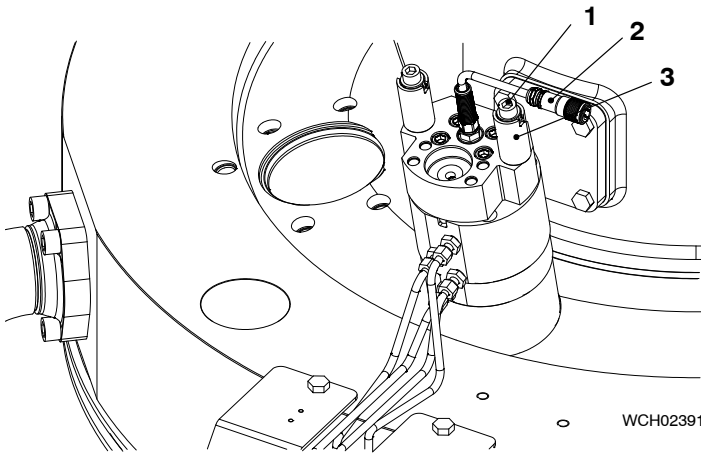
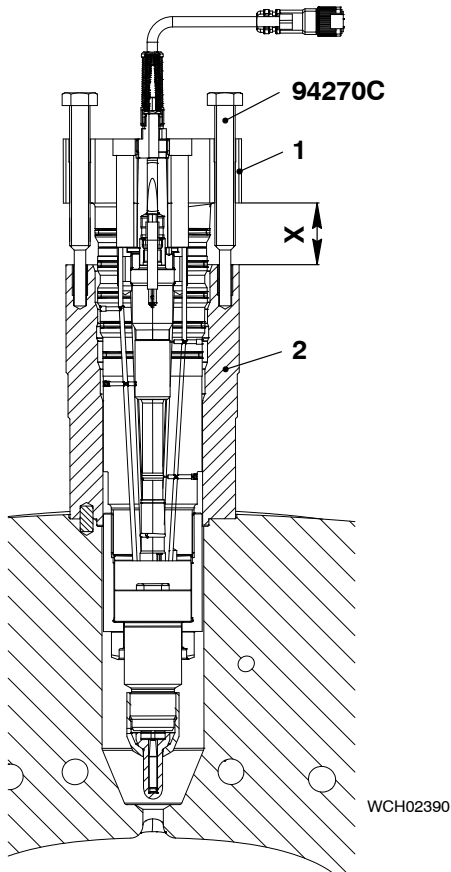

Fig. 1 Note: Some parts can look different.
Fig. 2
- 2) Disconnect the cable (2, Fig. 1) from the terminal box 95.4.
- 4) Remove the screws (1) and their spring cage (3).
- 5) Put the two bolts (94270C) in the position as shown in Fig. 2.
- 6) Turn the two bolts until they stop at the thread end in the valve bush (2)